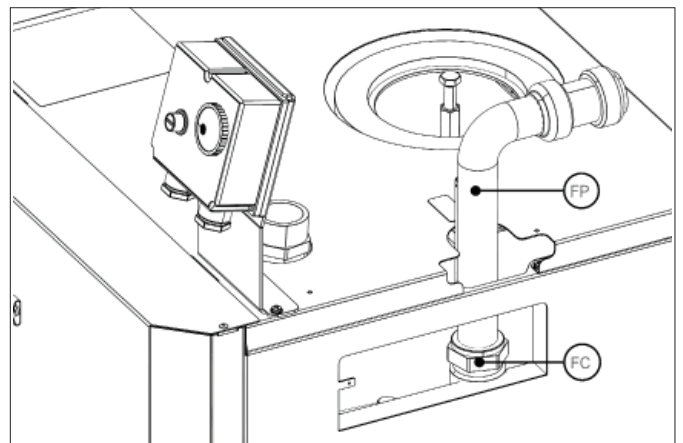

Figure 5-3: 26/36 & 36/46kW model - flow pipe fitted (cover plate
3. With the open end of the flow pipe pointing in the required direction (see below), fully tighten the compression nut. Refer to Figure 5-3.